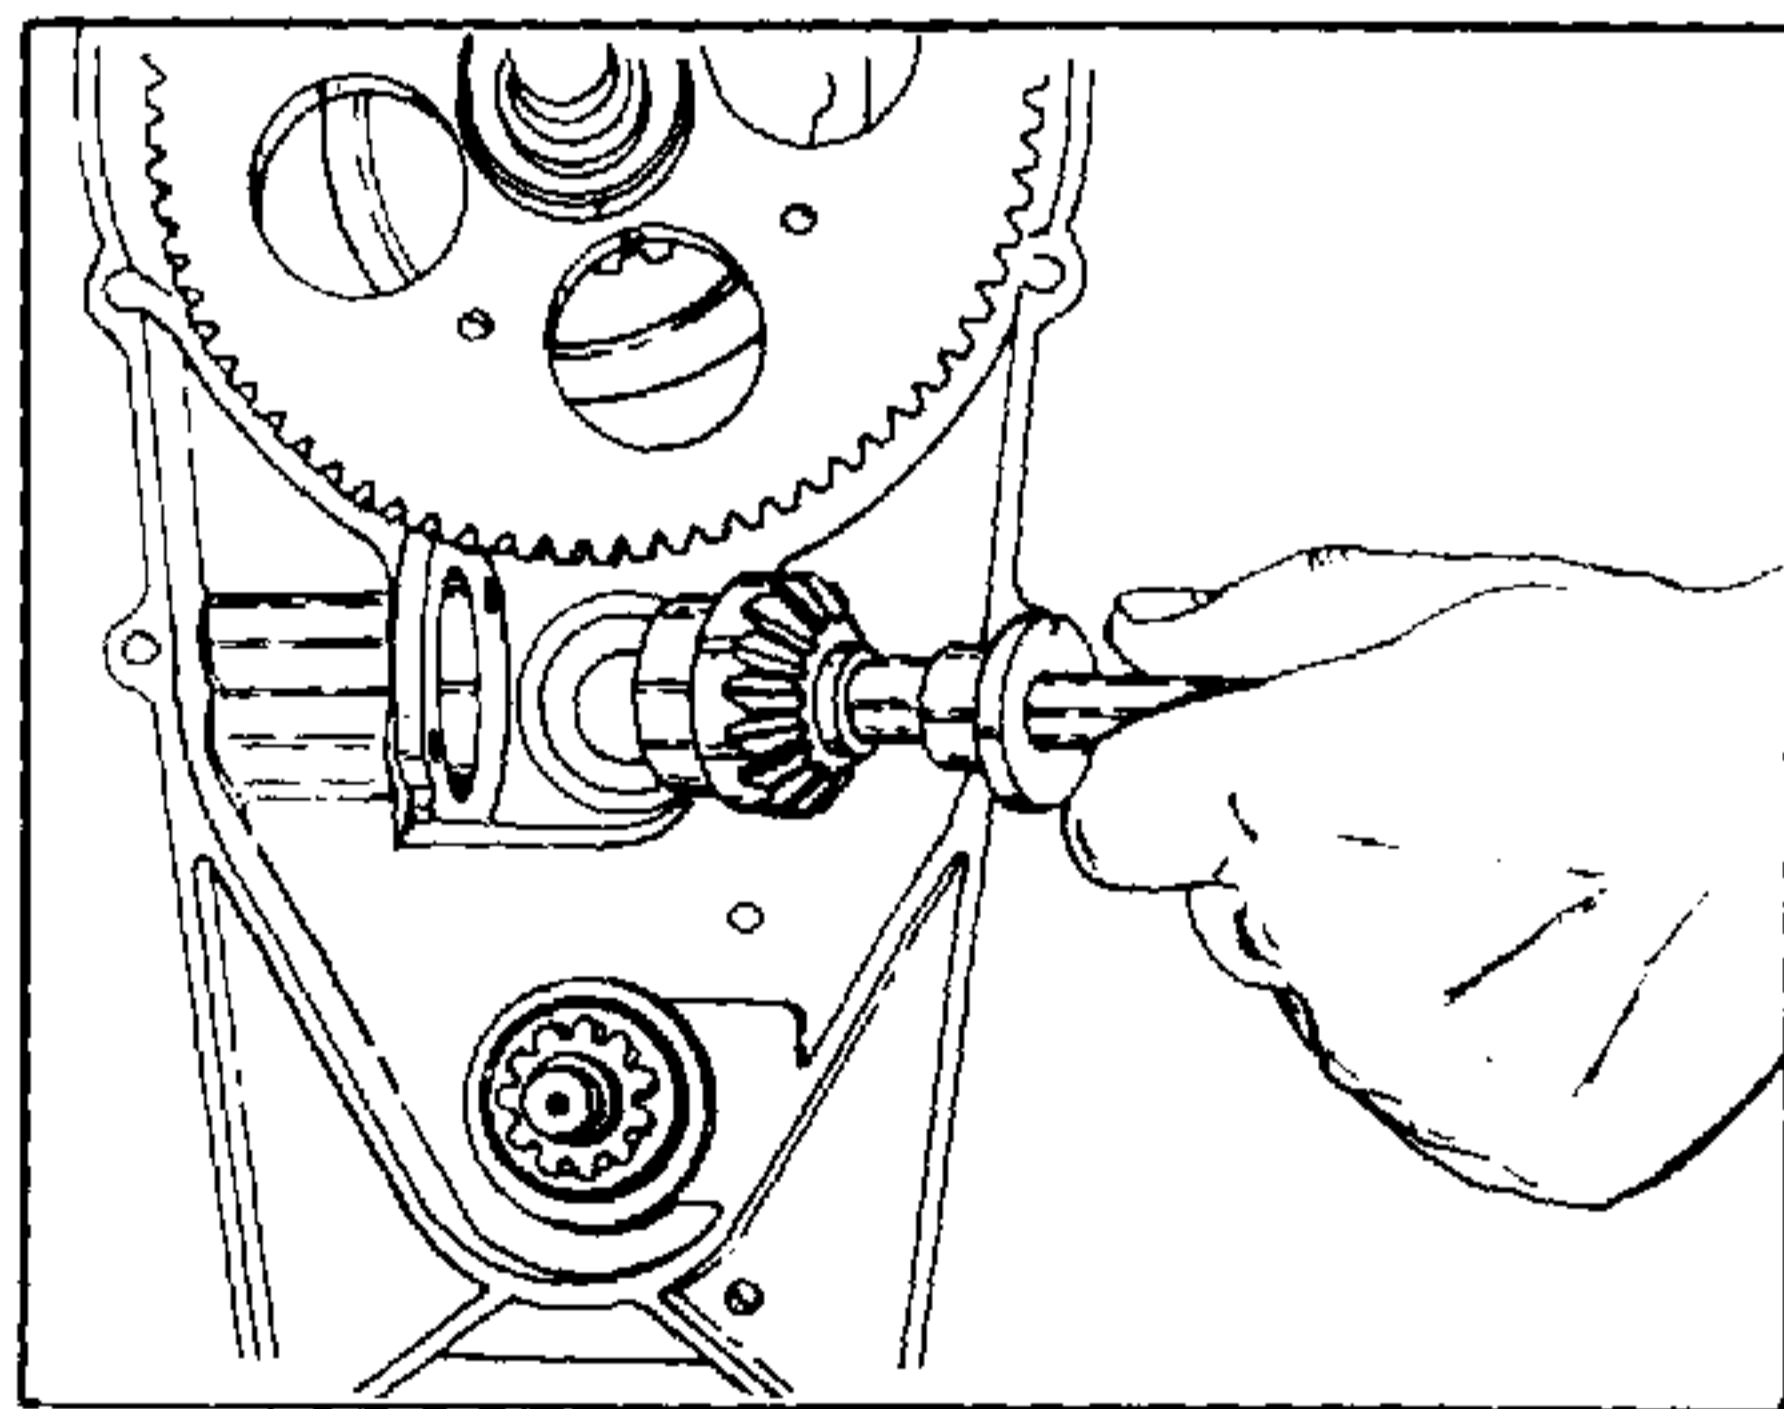

FIGURE 15.
8.11 Take drive shaft and press splined end into bearing until driven pinion is seated against bearing. Figure 15.